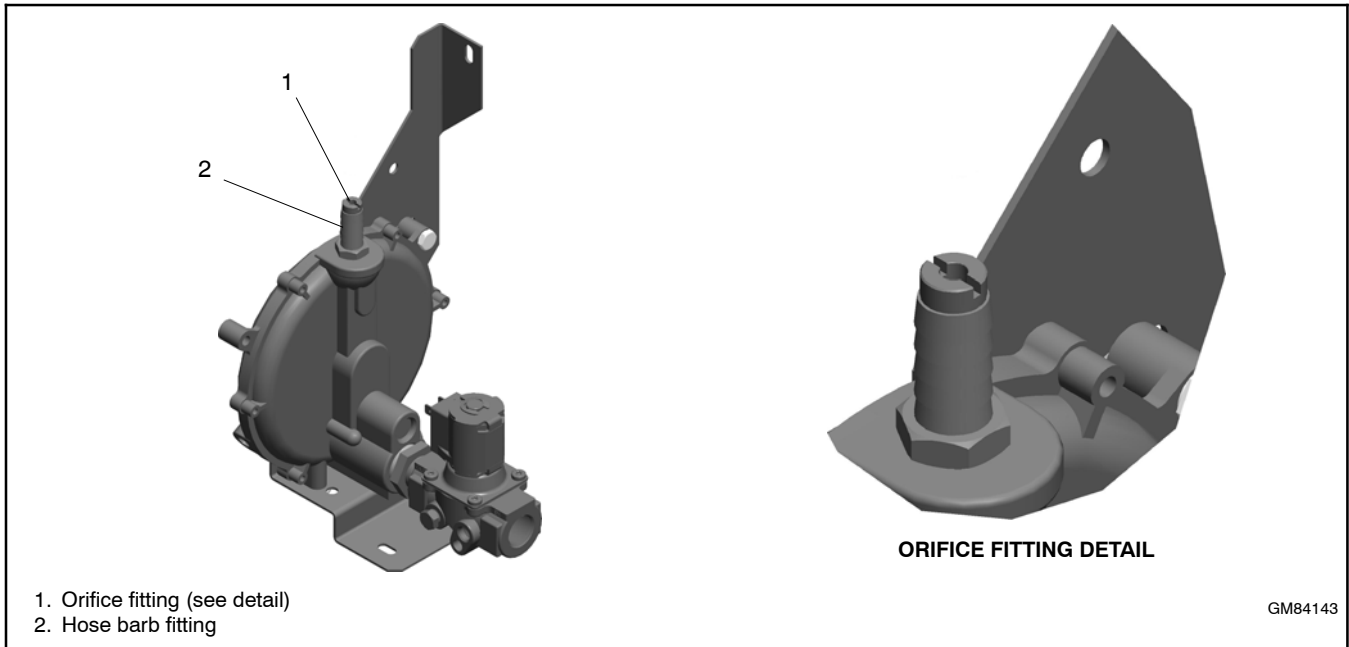

Figure 1-12 14RESA/RESAL Fuel System Showing Orifice Fittings (generators built after June 26, 2014)
6. Use a straight-blade screwdriver to remove the NG orifice from the hose fitting. See Figure 1-12.